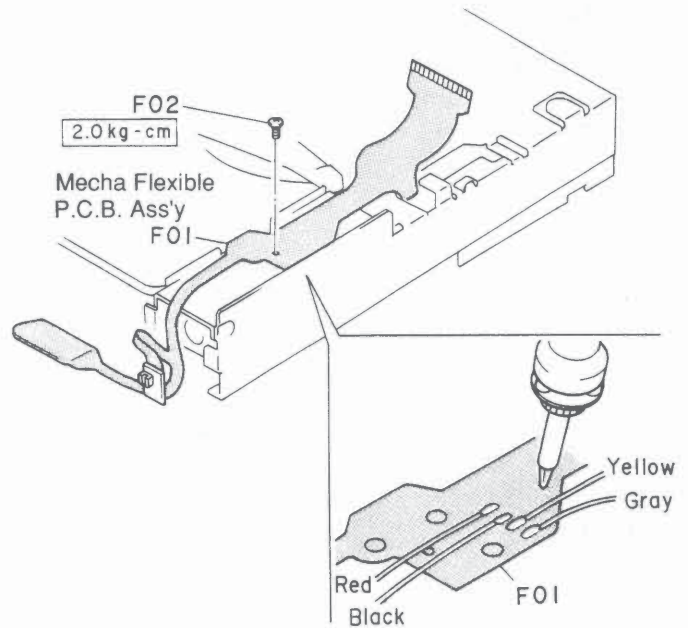

Fig. 2.10.1 Bottom View
Refer to Figs. 2.10.1 and 2.10.2.
- (1) Remove the Main P.C.B. Ass'y. Refer to item 2.4.
- (2) Unsolder the four motor lead wires (red, black, yellow, and gray) from F01 (Mecha Flexible P.C.B. Ass'y) and remove one screw F02. Refer to Fig. 2.10.1.